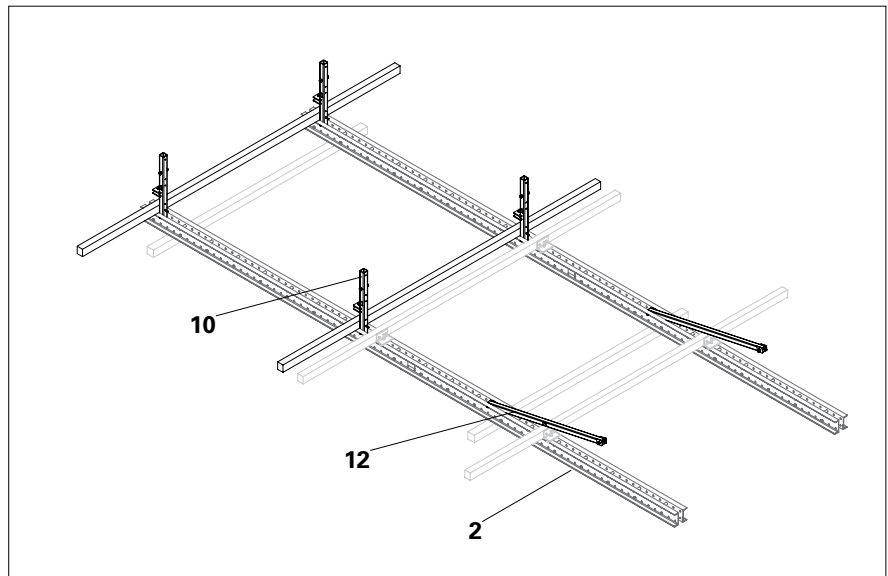

Fig. E.05
4. Remove Crossbars (10) and Diagonal Struts (12) from the Climbing Rails (2). (Fig. E.05)